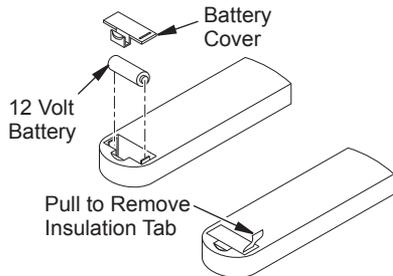

Figure 40 - Installing Battery in Hand-Held Remote Control Unit (SKYTECH)
5. Activate handset battery by removing insulating tab on back (see Figure 40).